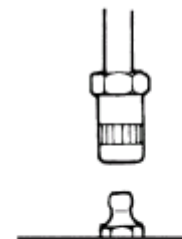

Fig. 7
- 1) Wipe the grease nipple to be used for greasing cleanly. After that, push the chuck at the end of the grease gun against the nipple to perform chucking as vertically as possible. (Fig. 7)